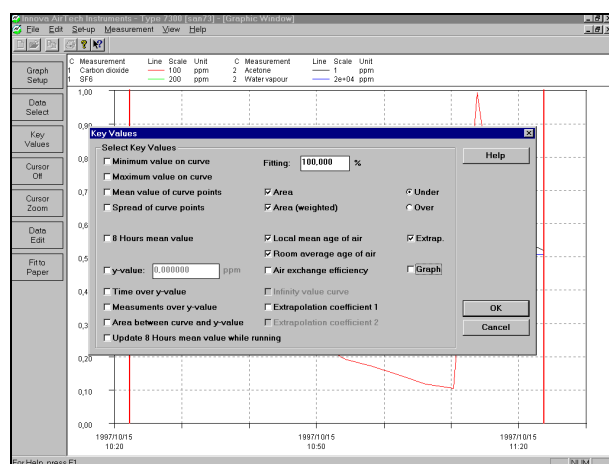

Fig.5.10 The Key Values dialogue
1. Click on **Key Values** in the panel. The Key Values dialogue will be displayed, Fig. 5.10. Parameters which cannot be selected are indicated in grey.